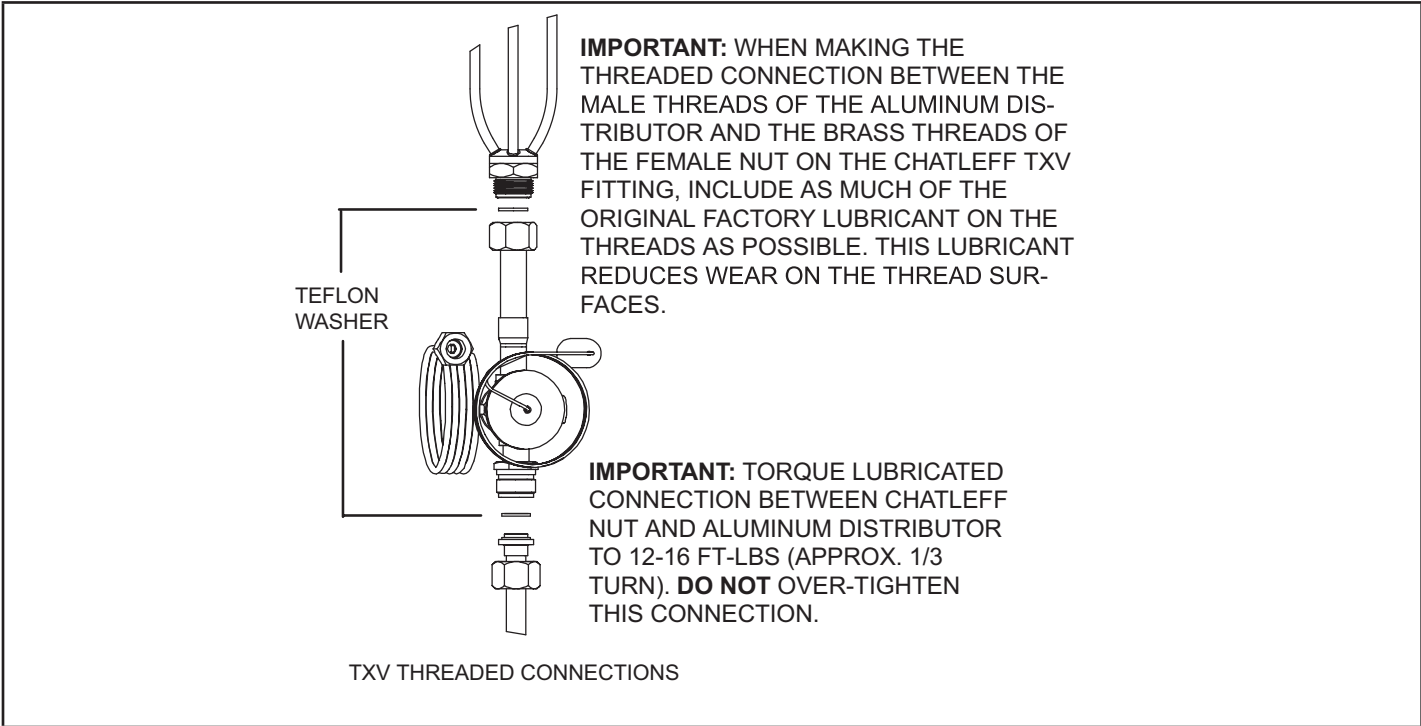

FIGURE 3. Replacement Coil Expansion Valve to Distributor Connection Detail
- 11 - Remove the Chatleff fitting stub from the replacement coil distributor. Reconnect the TXV Chatleff fitting to the new coil distributor using the provided Teflon washer. Include as much of the original factory lubricant on the threads as possible when making the connection. See figure 3.